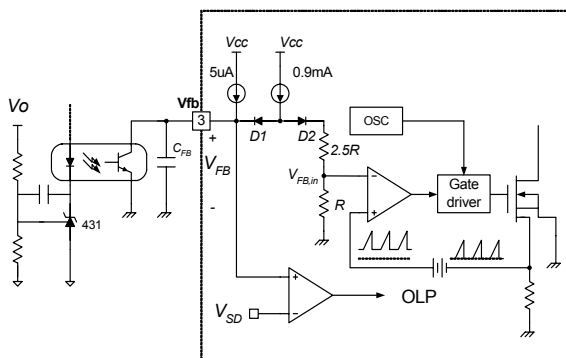

Figure 5. Pulse Width Modulation (PWM) Circuit
2. Feedback Control : The FSDx0365RNB employs current mode control, as shown in Figure 5. An opto-coupler (such as the H11A817A) and shunt regulator (such as the KA431) are typically used to implement the feedback network. Comparing the feedback voltage with the voltage across the R_{sense} resistor plus an offset voltage makes it possible to control the switching duty cycle. When the KA431 reference pin voltage exceeds the internal reference voltage of 2.5V, the optocoupler LED current increases, the feedback voltage V_{fb} is pulled down and it reduces the duty cycle. This event typically happens when the input voltage is increased or the output load is decreased.
4.3 Over Voltage Protection (OVP) : In the event of a malfunction in the secondary side feedback circuit, or an open feedback loop caused by a soldering defect, the current through the opto-coupler transistor becomes almost zero (refer to Figure 5). Then, V_{FB} climbs up in a similar manner to the over load situation, forcing the preset maximum current to be supplied to the SMPS until the over load protection is activated. Because excess energy is provided to the output, the output voltage may exceed the rated voltage before the over load protection is activated, resulting in the breakdown of the devices in the secondary side. In order to prevent this situation, an over voltage protection (OVP) circuit is employed. In general, V_{cc} is proportional to the output voltage and the FPS uses V_{cc} instead of directly monitoring the output voltage. If V_{CC} exceeds 19V, OVP circuit is activated resulting in termination of the switching operation. In order to avoid undesired activation of OVP during normal operation, V_{cc} should be properly designed to be below 19V.